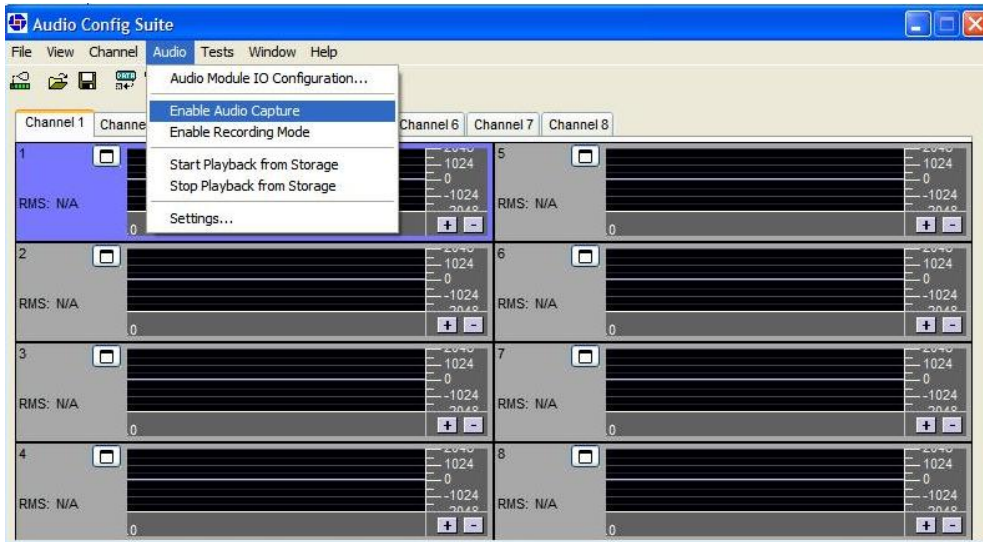

Figure 8-24 - Enable Audio Capture.
3. Enable **Audio Capture** from the Audio pull down menu as shown in *Figure 8-24 - Enable Audio Capture*.
2. Select **Enable Recording Mode** from the Audio pull down menu shown in *Figure 8-24 – Enable Audio Capture*;